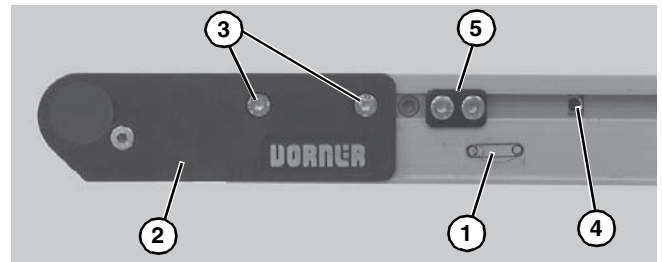

Figure 32
1. On tension end of the conveyor, identified with a label (Figure 32, item 1), adjust head plate assembly (Figure 32, item 2): On both sides of conveyor, loosen fastening screws (Figure 32, item 3) and rotate pinion gear (Figure 32, item 4) to adjust head plate assembly.